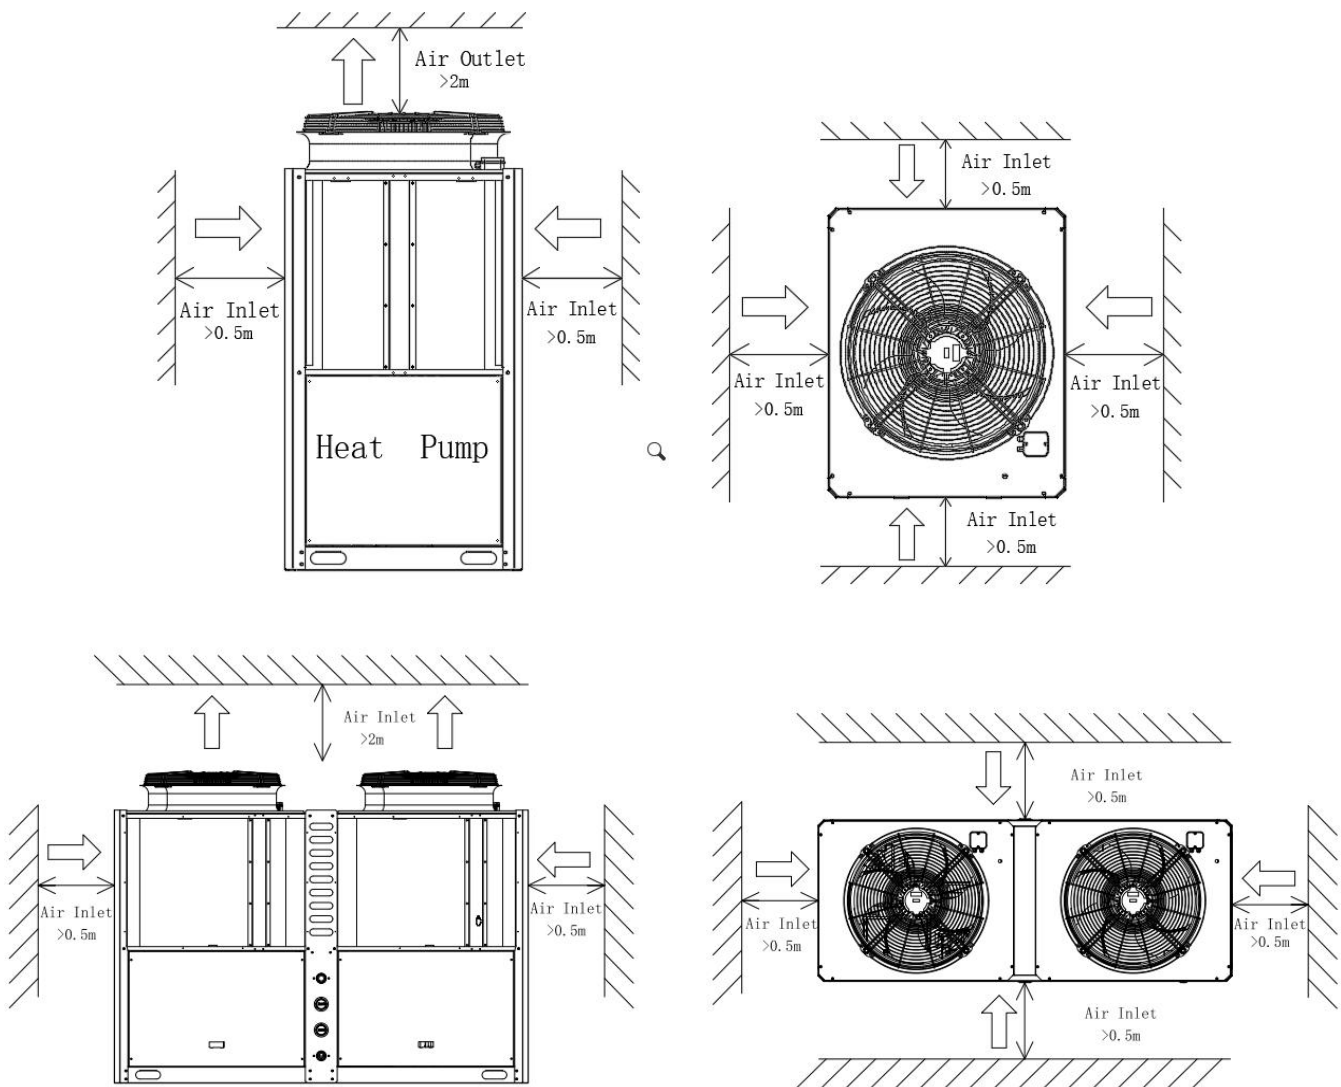

Fig 1
- 4.For easier and better maintenance and troubleshooting. For easier and better maintenance and troubleshooting, no obstacles around the unit should be closer than 1m. No obstacles within 2 meters vertical from the ventilation device.(See Figure 1)